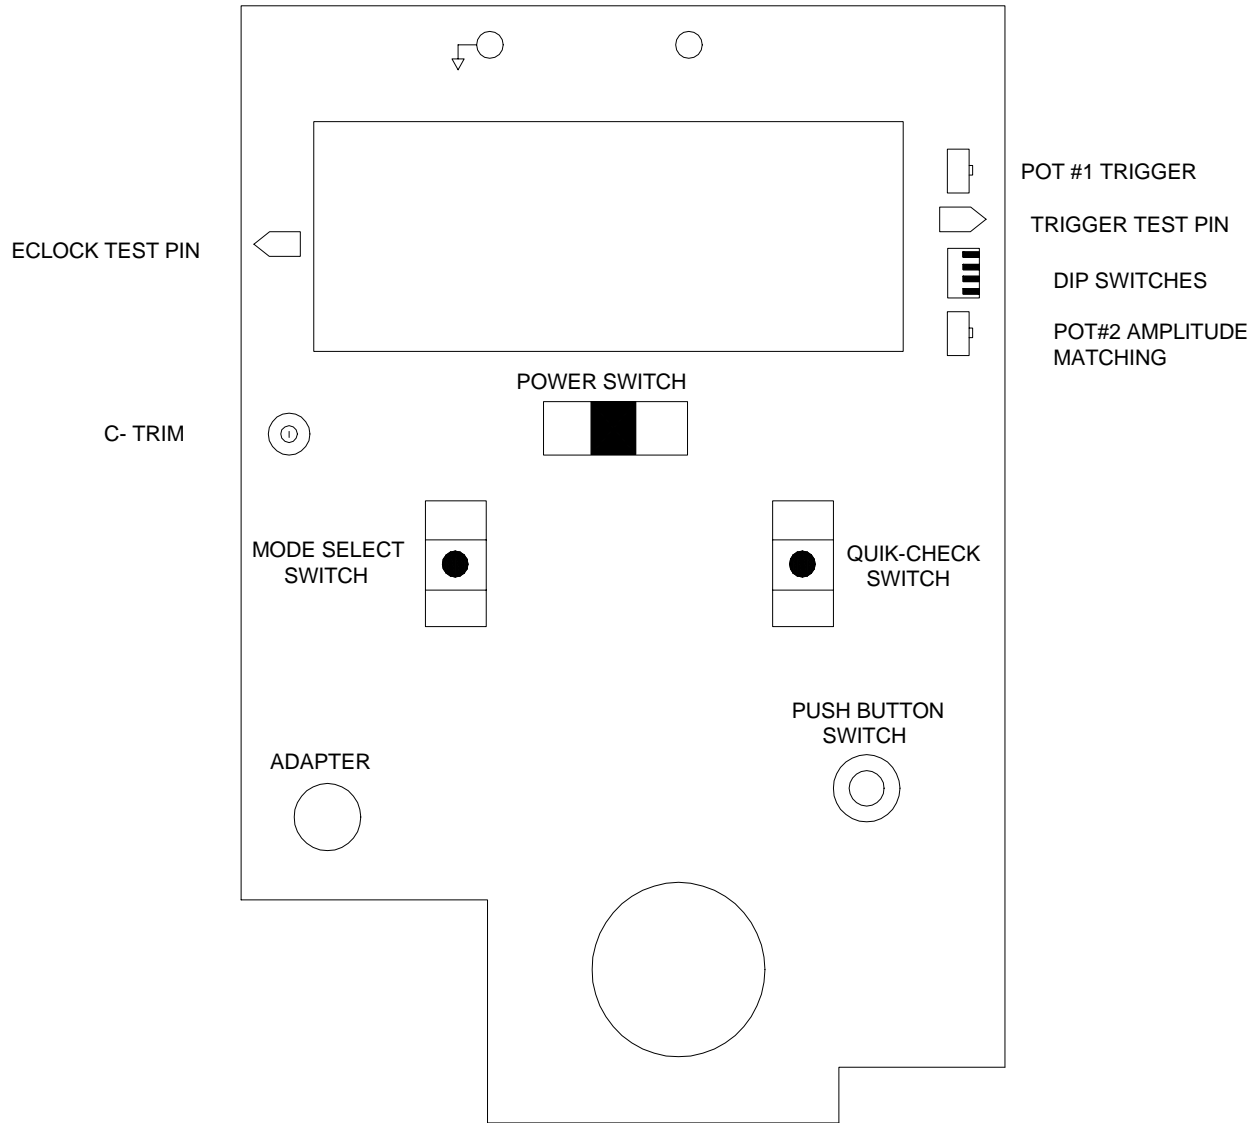

FIGURE 1
Please refer to figure 1 for the location of switches, test points and adjustment potentiometers.
- b) Connect the positive lead of the frequency counter to the ECLOCK TEST PIN on the digital (top) board of the 941/942 and the negative lead to the negative output of the 941/942. (Refer to Figure 1)
- h) Adjust C-TRIM until the frequency Counter is reading 2MHz  $\pm 5$ Hz. (Refer to Figure 1)
- e) Adjust POT #2 (Amplitude Matching Pot) until the Sine Wave is 6Vpp. (Refer to Figure 1)
- d) Short the inputs and connect the ground of the scope to the short. Connect the scope probe to the TRIGGER TEST PIN on the analog (middle) board of the 941/942. (Refer to Figure 1)
- g) Set the scope for DC coupling and adjust POT #1 (Trigger Pot) until the horizontal line is on the ground line of the scope. (Refer to Figure 1)